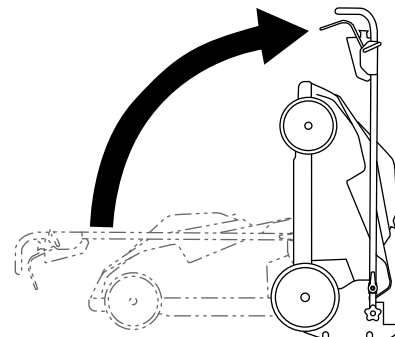

Figure 15
3. Fold the handle forward to the fully forward position as shown in Figure 15.
6. Lift the front of the machine by the handle and move it into a storage space (Figure 15).